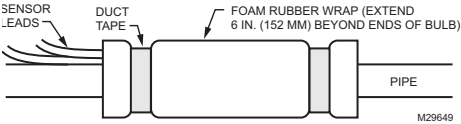

Fig. 2. Covering bulb and pipe with insulation.
3. If necessary, cover the bulb with insulation, making sure it extends at least 6 inches (152mm) beyond both ends of the bulb. See Fig. 2.
4. Secure insulation with duct tape or foil tape. See Fig. 2.